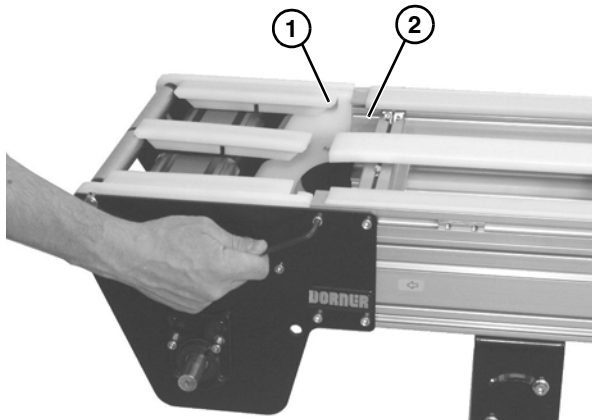

Figure 33
When reinstalling the drive spindle tail assembly, the terminal assembly (**Figure 33, item 1**) should be flush with the conveyor frame (**Figure 33, item 2**).